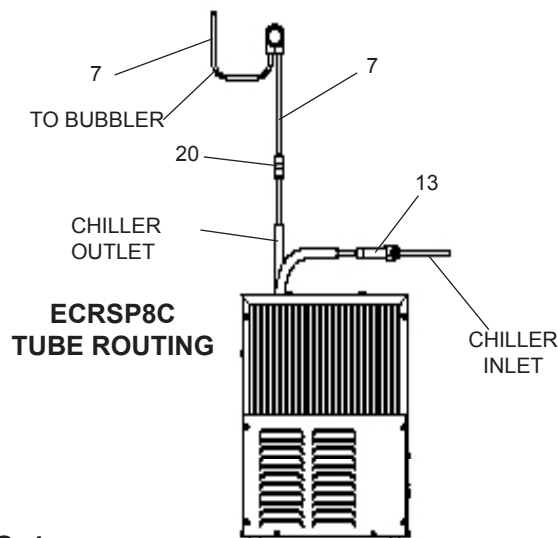

FIG. 4
3. **ECRSP MODELS:** Make connection between remote chiller and building supply line. Inlet port is marked on the chiller (1/4" O.D. copper tube). Bend the copper tube (provided) at an appropriate length from chiller to opening in frame. Install the in-line strainer (provided with chiller) by pushing it in until it reaches a positive stop, approximately 3/4" (19mm) on the marked chiller inlet port. Connect building supply line to strainer. **DO NOT SOLDER TUBES INSERTED INTO THE STRAINER AS DAMAGE TO THE O-RINGS MAY RESULT.** (See Fig. 4)
5. **Install** the fountain. Remove access cover plate on underside of fountains and save the screws. Mount the fountain to the upper panel and the wall frame with (4) 5/16" x 3/4" (19mm) long bolts and nuts (provided). Tighten securely.
7. **ECRSP MODELS:** Make connections between remote chiller outlet tube and fountain. Outlet port is marked on the chiller (1/4" O.D. copper tube). Install a 1/4" x 1/4" union (provided) on the marked chiller outlet port. Insert the 1/4" poly tubing coming from the fountain into the union. Turn on water supply and check for leaks. **DO NOT SOLDER TUBES INSERTED INTO THE UNIONS AS DAMAGE TO THE O-RINGS MAY RESULT.** (See Figure 4).